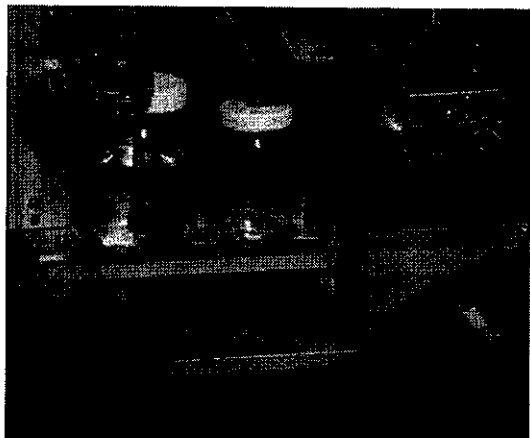

Figure 2-O
3. Position the waste tray in between the guide rails (Figure 2-O) and push the tray completely in.